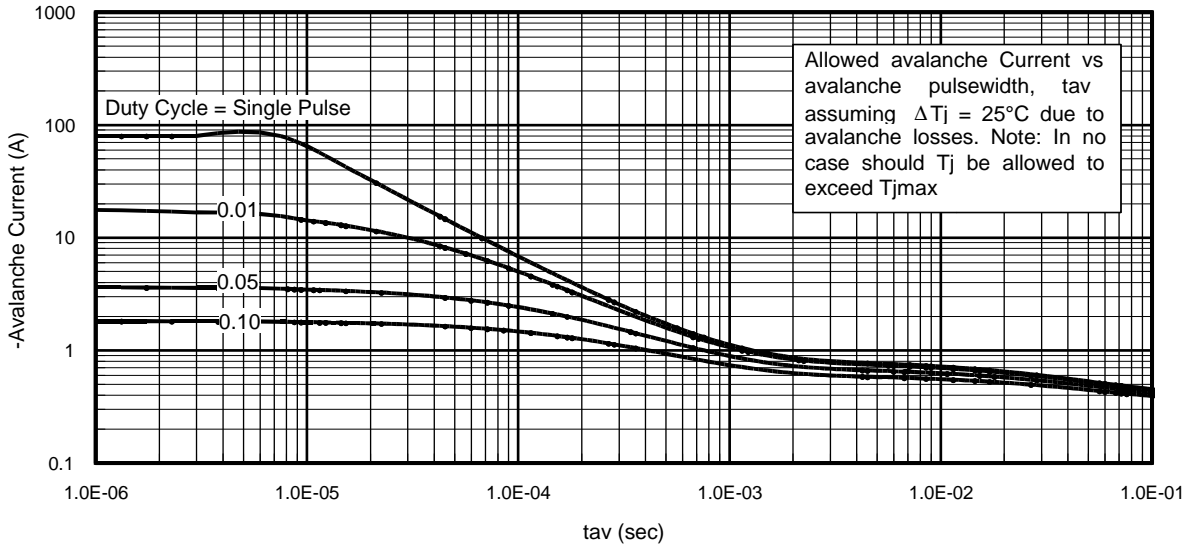

Fig 14. Typical Avalanche Current Vs. Pulsewidth
**Notes on Repetitive Avalanche Curves , Figures 14, 15:
7. ΔT = Allowable rise in junction temperature, not to exceed T_{jmax} (assumed as 25°C in Figure 14, 15).
- ① Repetitive rating; pulse width limited by max. junction temperature.
- ② Starting $T_J = 25^\circ\text{C}$, $L = 3.89\text{mH}$, $R_G = 25\Omega$, $I_{AS} = -10\text{A}$.
- ③ Pulse width $\leq 400\mu\text{s}$; duty cycle $\leq 2\%$.
- ④ R_{θ} is measured at T_J of approximately 90°C .
- ⑤ Limited by T_{jmax} . See Figs. 14, 15, 17a, 17b for repetitive avalanche information